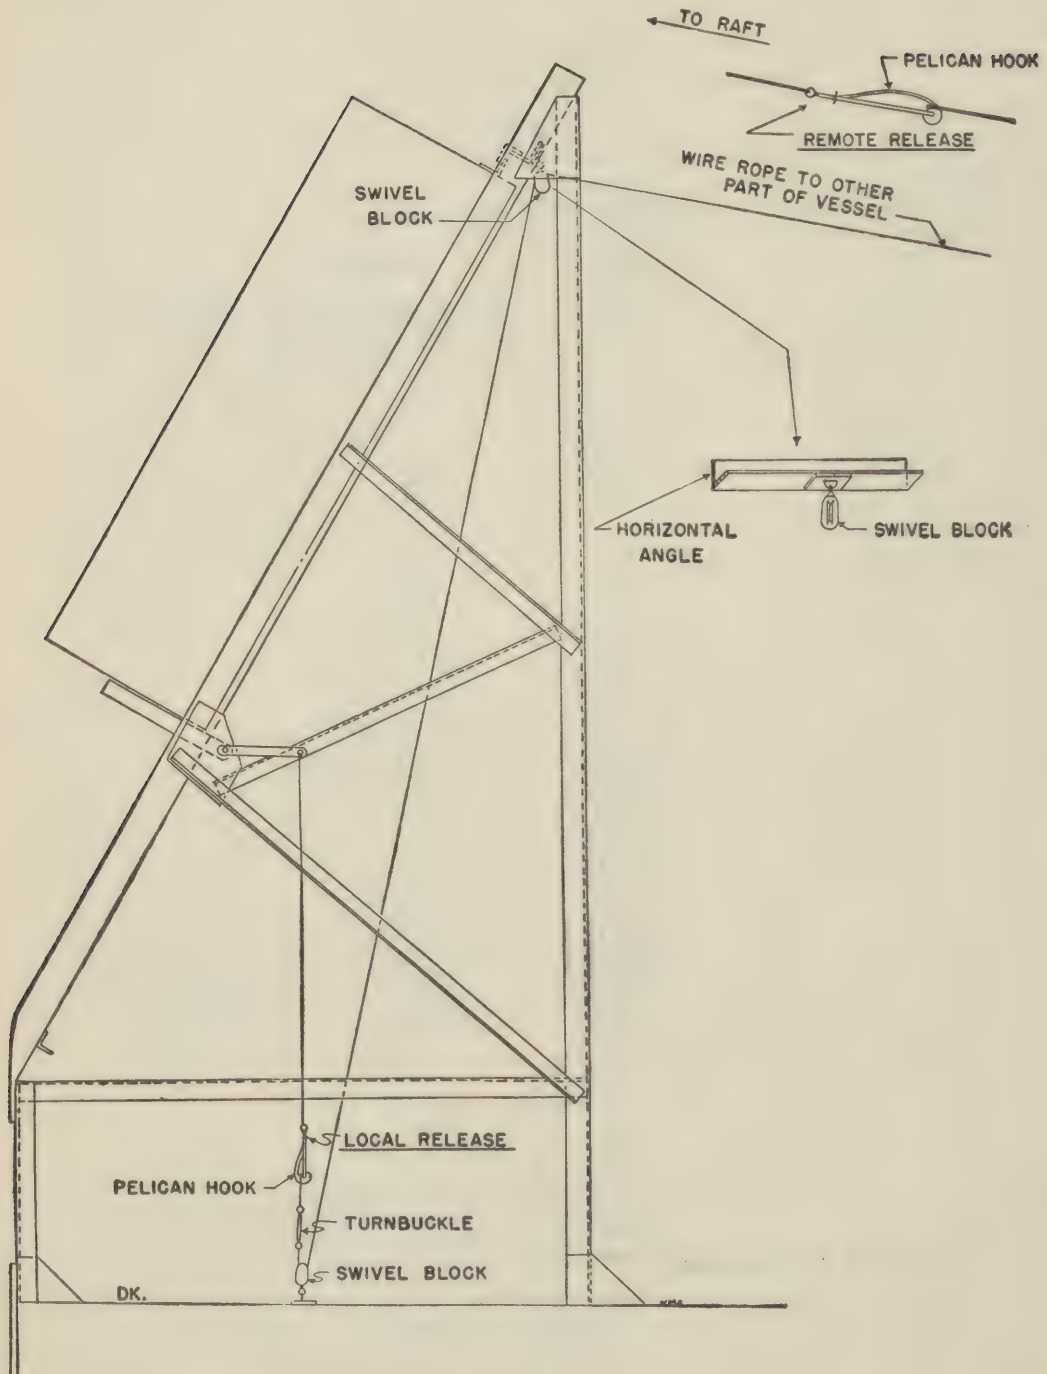

FIGURE 13.—Life raft release arrangement.
**Release from two points.**—On vessels having long well decks forward and aft and any vessel where the distance from the accommodation to the raft release is such as to indicate the desirability of releasing the raft from another point, the rig shown in figure 13 may be utilized. This arrangement is particularly desirable on tank vessels.